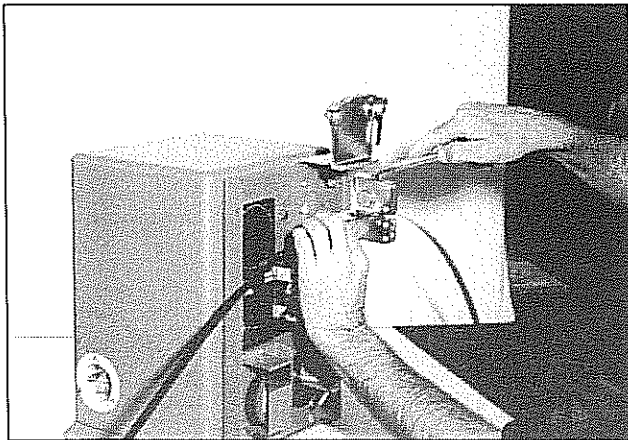

Fig. 1
1. Use Grob T-10 cut-off tool to assure a square cut. (See Fig. 1.)